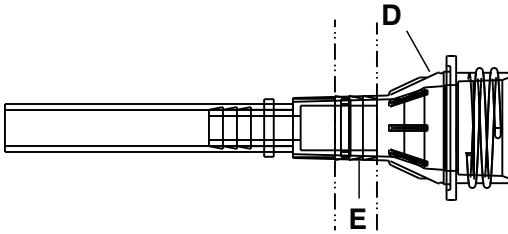

**Figure 6 – Reduction coupler fitting**
5. Using the diagonal pliers, carefully cut the cable tie (C) closest to the foot end of the support surface cover that secures the LAL hose and reduction coupler fitting (A) to the valve body (B) (Figure 6).
5. Using the diagonal pliers, carefully cut the cable tie (C) closest to the foot end of the support surface cover that secures the LAL hose and reduction coupler fitting (A) to the valve body (C) (Figure 6).